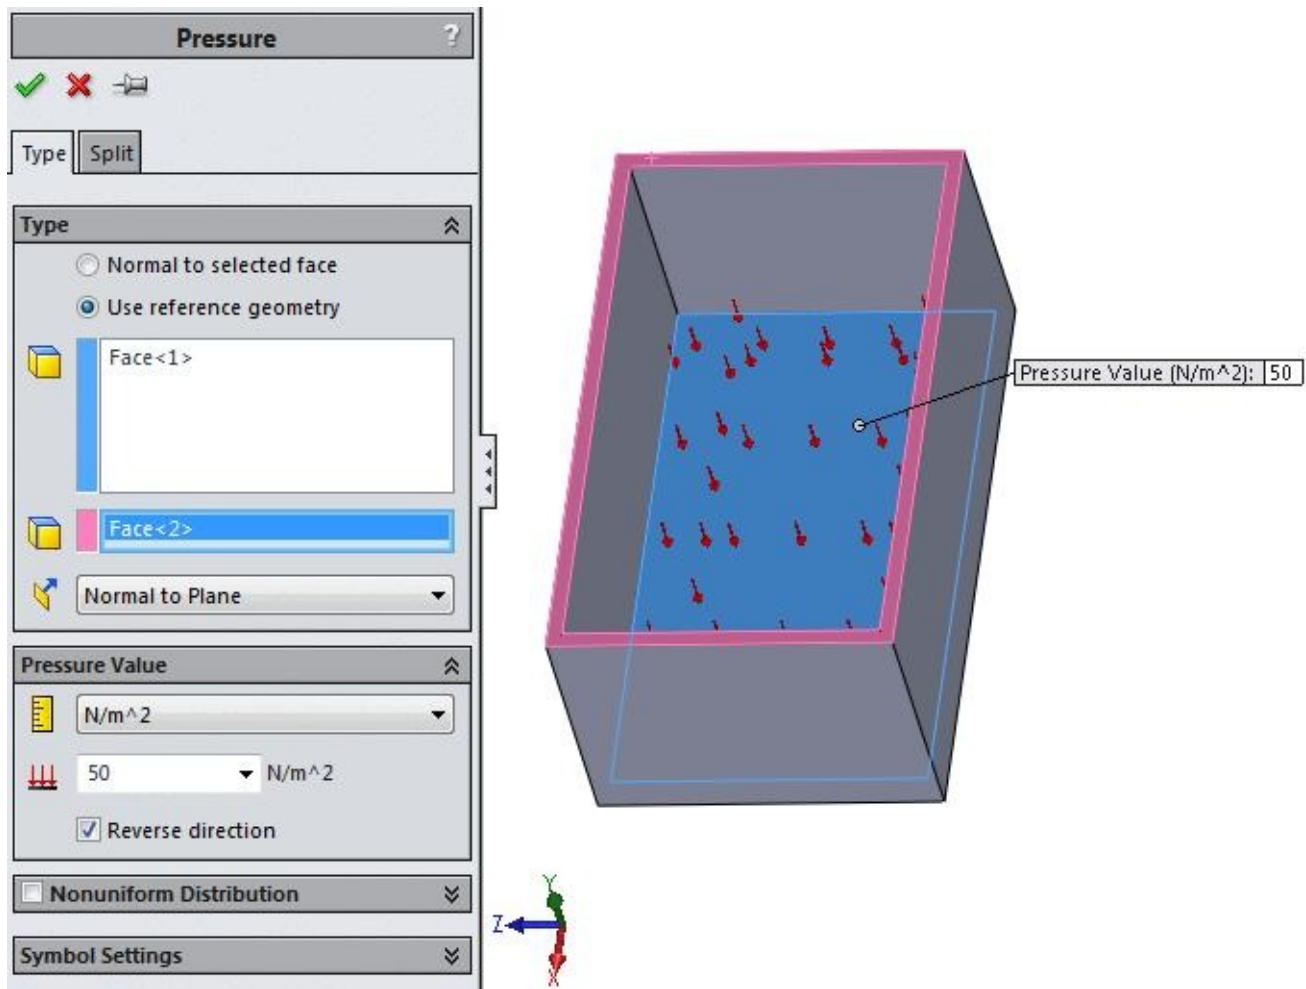

Figure-42. Preview of pressure applied
- If you have selected the **Use reference geometry** radio button then select the direction reference to specify the direction of pressure. Preview of the pressure applied will be displayed; refer to Figure-42.